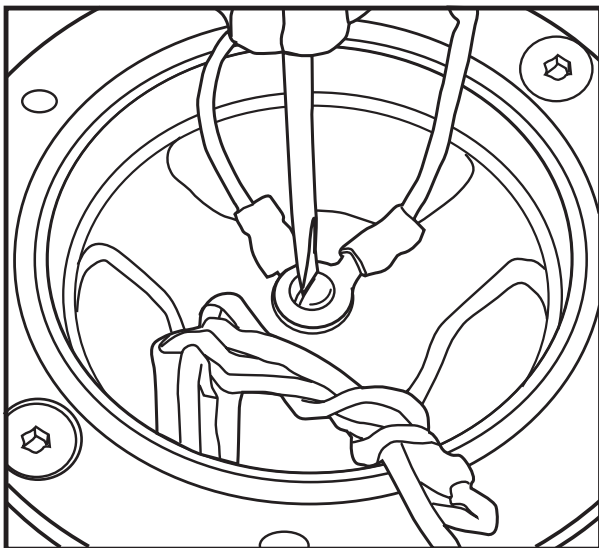

Fig. 33
3. Lift cap and remove lead from ground screw. See Figure 33